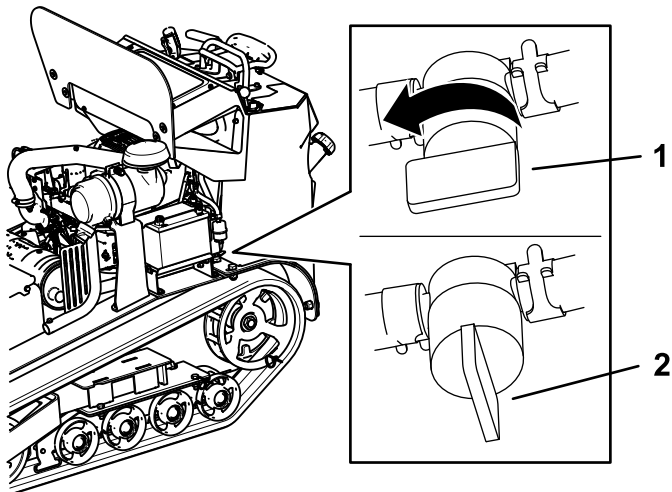

Figure 39
3. Turn the fuel-shutoff valve to the closed position (Figure 39).